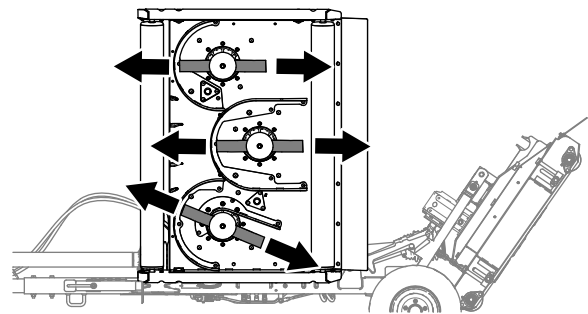

Figure 70
1. Align the mower blade as shown in Figure 70.